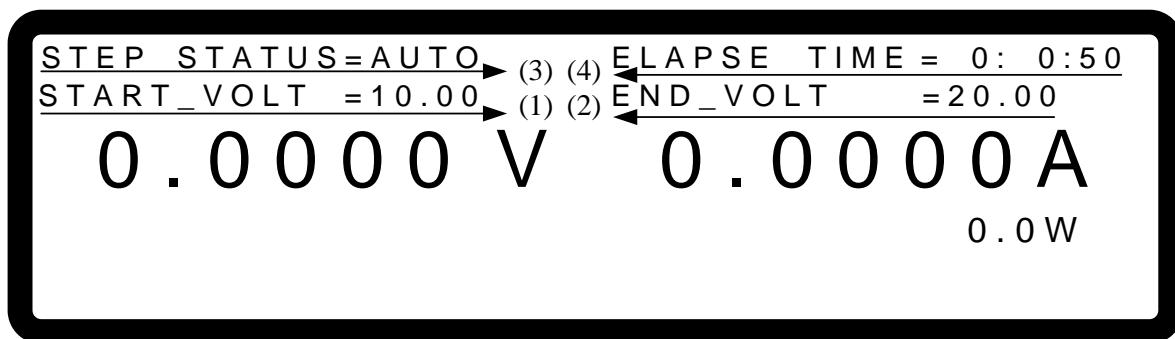

Figure 4-24
Figure 4-24 shows the main execution page of V_STEP MODE. Items (1) - (4) in the figure are explained below.